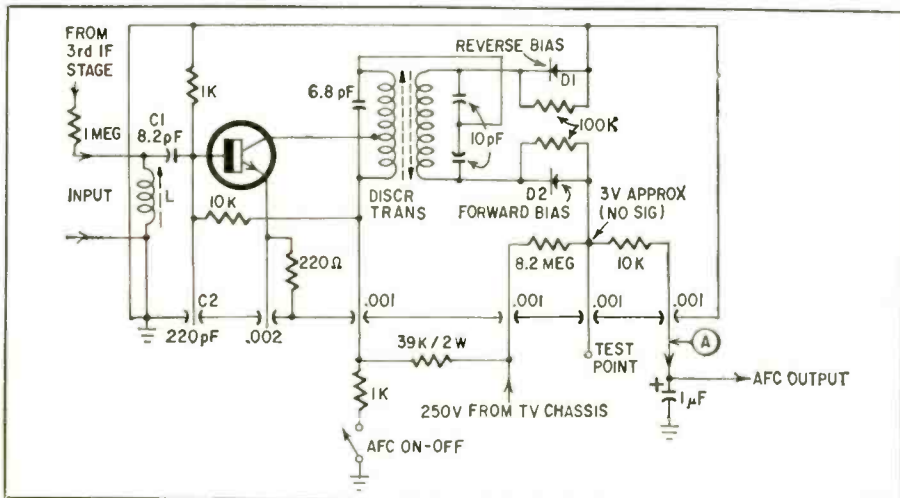

Fig. 1—This solid-state discriminator uses both forward and reverse bias on the diodes.
The error sensor is a transistor discriminator (Fig. 1). The 45.75-MHz picture-i.f. signal is coupled from the plate of the third i.f. stage through a 1-meg $\frac{1}{4}$ -watt resistor to discriminator input coil L. This coil is tuned slightly higher than 45.75-MHz (approximately 46.1 MHz) to compensate for the slope in i.f. response.
The transformer primary and secondary are coupled by both inductive (physical spacing between two coils) and capacitive (two 10-pF capacitors) means. These two coupling methods provide the in-phase and out-of-phase components generally associated with discriminator design. The matched diodes and their load resistors are appropriately coupled to the secondary; filtered dc control voltage is then available at point A in Fig. 1. The 1- μ F electrolytic provides low-frequency decoupling, removing video information from the picture carrier. It also provides a sufficiently long time constant to prevent accidental lock-in.
The diode detector employs an unusual dc biasing method. Referring to Fig. 1, note the following: (1) Diodes D1 and D2 are reverse- and forward-biased respectively (in no-signal operation). (2) Approximately 3 volts is developed at the test point. This voltage (1 to 8 volts) is used to supply reverse
Fig. 1—If the lowest range on your ac meter is 1 or 1.5 volts, you can use a fixed voltage divider at the generator output. Ordinary 10% resistors will do—the error will be in the vicinity of only 1 dB. For higher accuracy, choose 1% resistors in ratios of 9:1, 99:1 and 999:1. The dividers should be enclosed in grounded shield cans to avoid stray hum and noise pickup.
If you expect to have to measure preamplifier gain and frequency response, you may find the "blindness" of not having a sensitive enough instrument a real handicap. (Fig. 1 shows a way around the problem which may not always be convenient.)